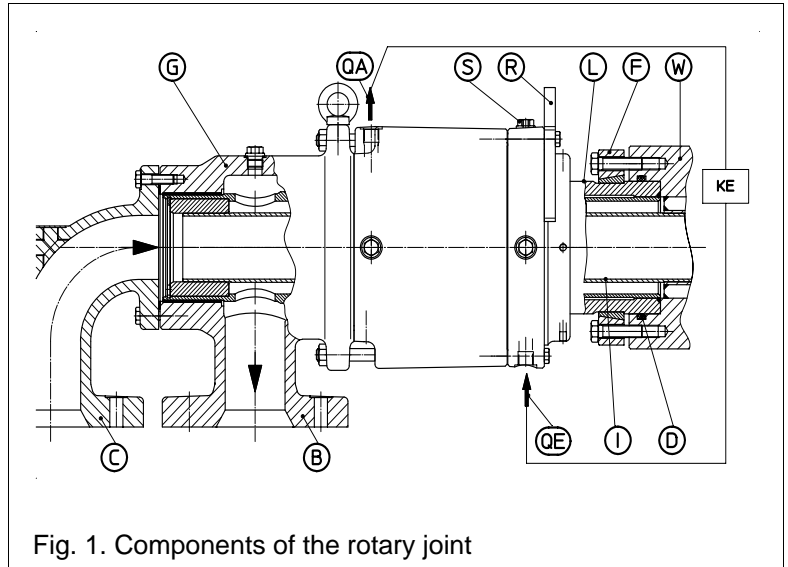

Fig. 1. Components of the rotary joint
- If the bearings in the housing are to be monitored, connect a vibration pickup at sensor plug "S" (female thread M6x1; see fig. 1 on page 3).